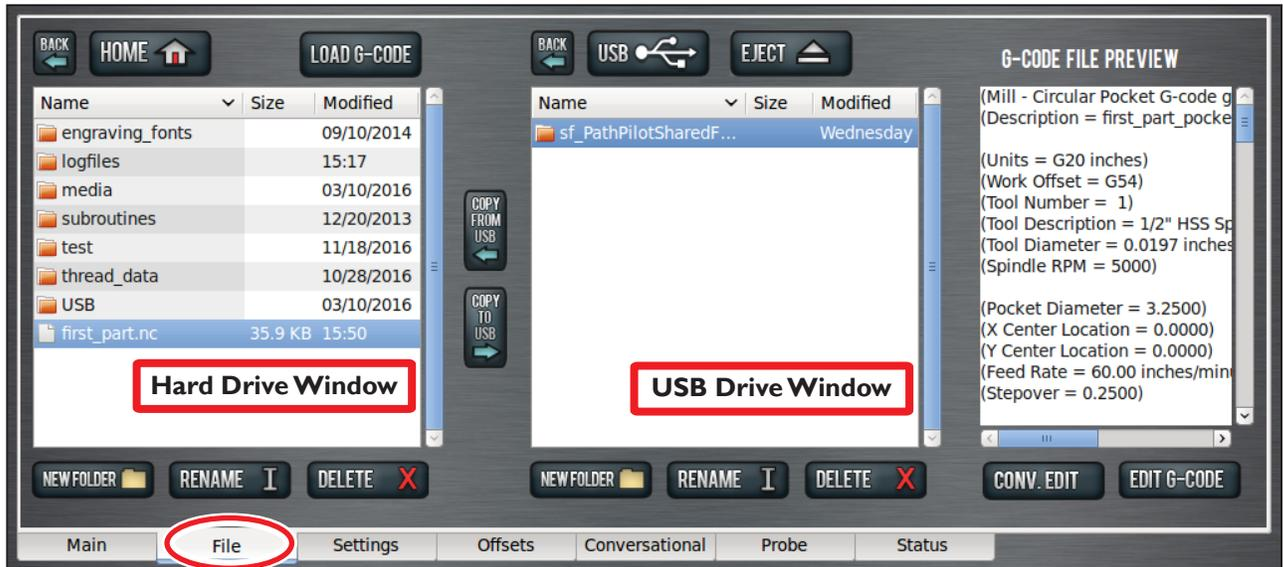
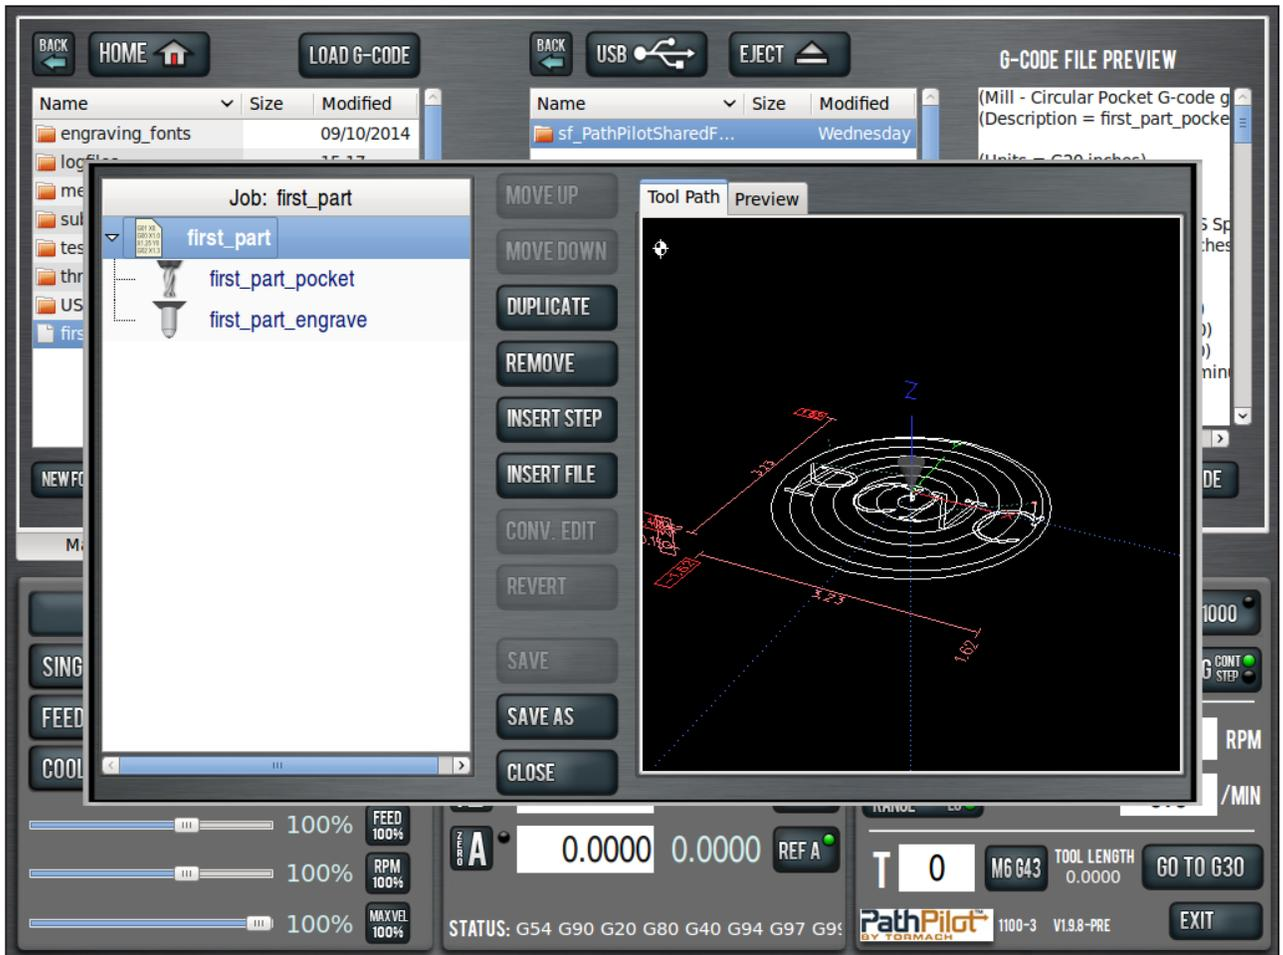

Figure 6.14
Figure 6.15
The *File* tab is used to transfer files to and from a USB drive, copy, delete, and rename files and folders (see **Figure 6.14**). The left window shows files and folders on the controller hard drive; the middle window shows files and folders on a removable USB drive.
Use the *New Folder*, *Rename*, and *Delete* buttons below the respective USB Drive Window and Hard Drive Window for file management (see **Figure 6.14**). To move files into a folder, right-click on the file and select cut or copy from the pop-up menu.
**NOTE:** Use Back to navigate backwards; use USB to jump to the highest (home) level (see **Figure 6.14**).
4. Highlight the file or folder to copy in the USB drive window; click *Copy From USB* (see **Figure 6.14**).
7. Click *Eject* to disconnect the USB drive from the controller (see **Figure 6.14**).
The *Load G-code* function is only available for files stored on the controller (see **Figure 6.14**).
1. Navigate to the desired .nc file in the hard drive window; highlight the file and click *Load G-code* (see **Figure 6.14**).
The *G-code File Preview* window displays the contents of the selected .nc file (see **Figure 6.14**). You can edit G-code in two ways on your PathPilot controller:
1. Highlight the file and click *Edit G-code* (see **Figure 6.14**).
To edit the G-code using conversational programming, highlight the file and click *Conv. Edit* (see **Figure 6.14**). A job assignment editor opens the file in a new window for editing the contents of the file. The left window shows job assignments of a program; the right window previews the program (see **Figure 6.15**).